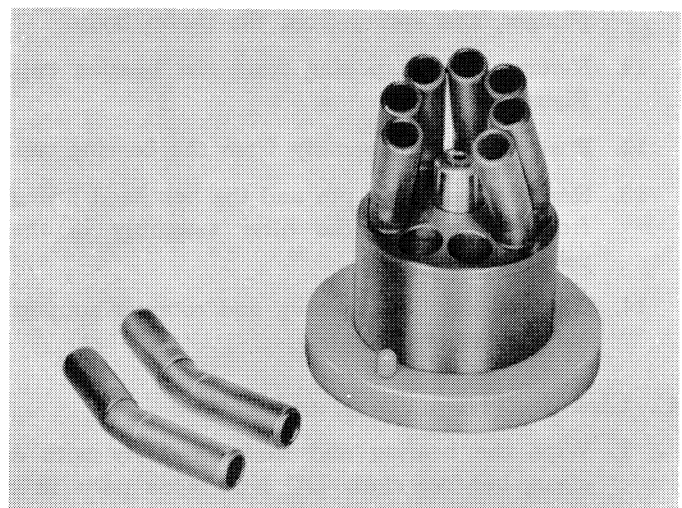

Figure 10—Assembling Sleeves in Driven Cylinder Block
4. Note which two holes are positioned over the two shortest pads in the assembly fixture. Insert a sleeve in each of the other seven holes as shown in Figure 10. To ease assembly, lubricate the sleeves with clean, light oil.